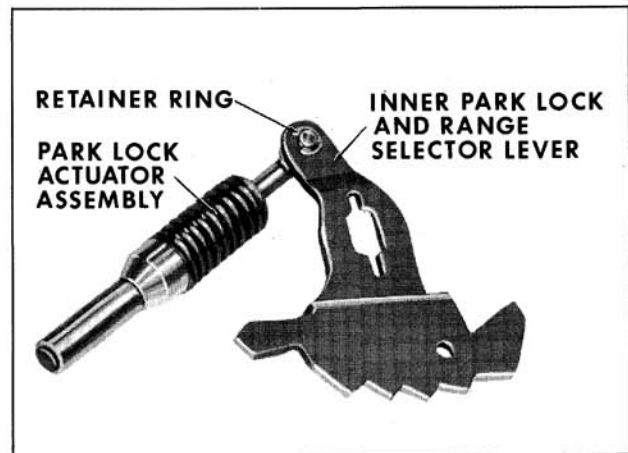

Fig. 6-482 Assembly Actuator
3. Assemble park lock actuator assembly to inner park lock and range selector. (Fig. 6-482)